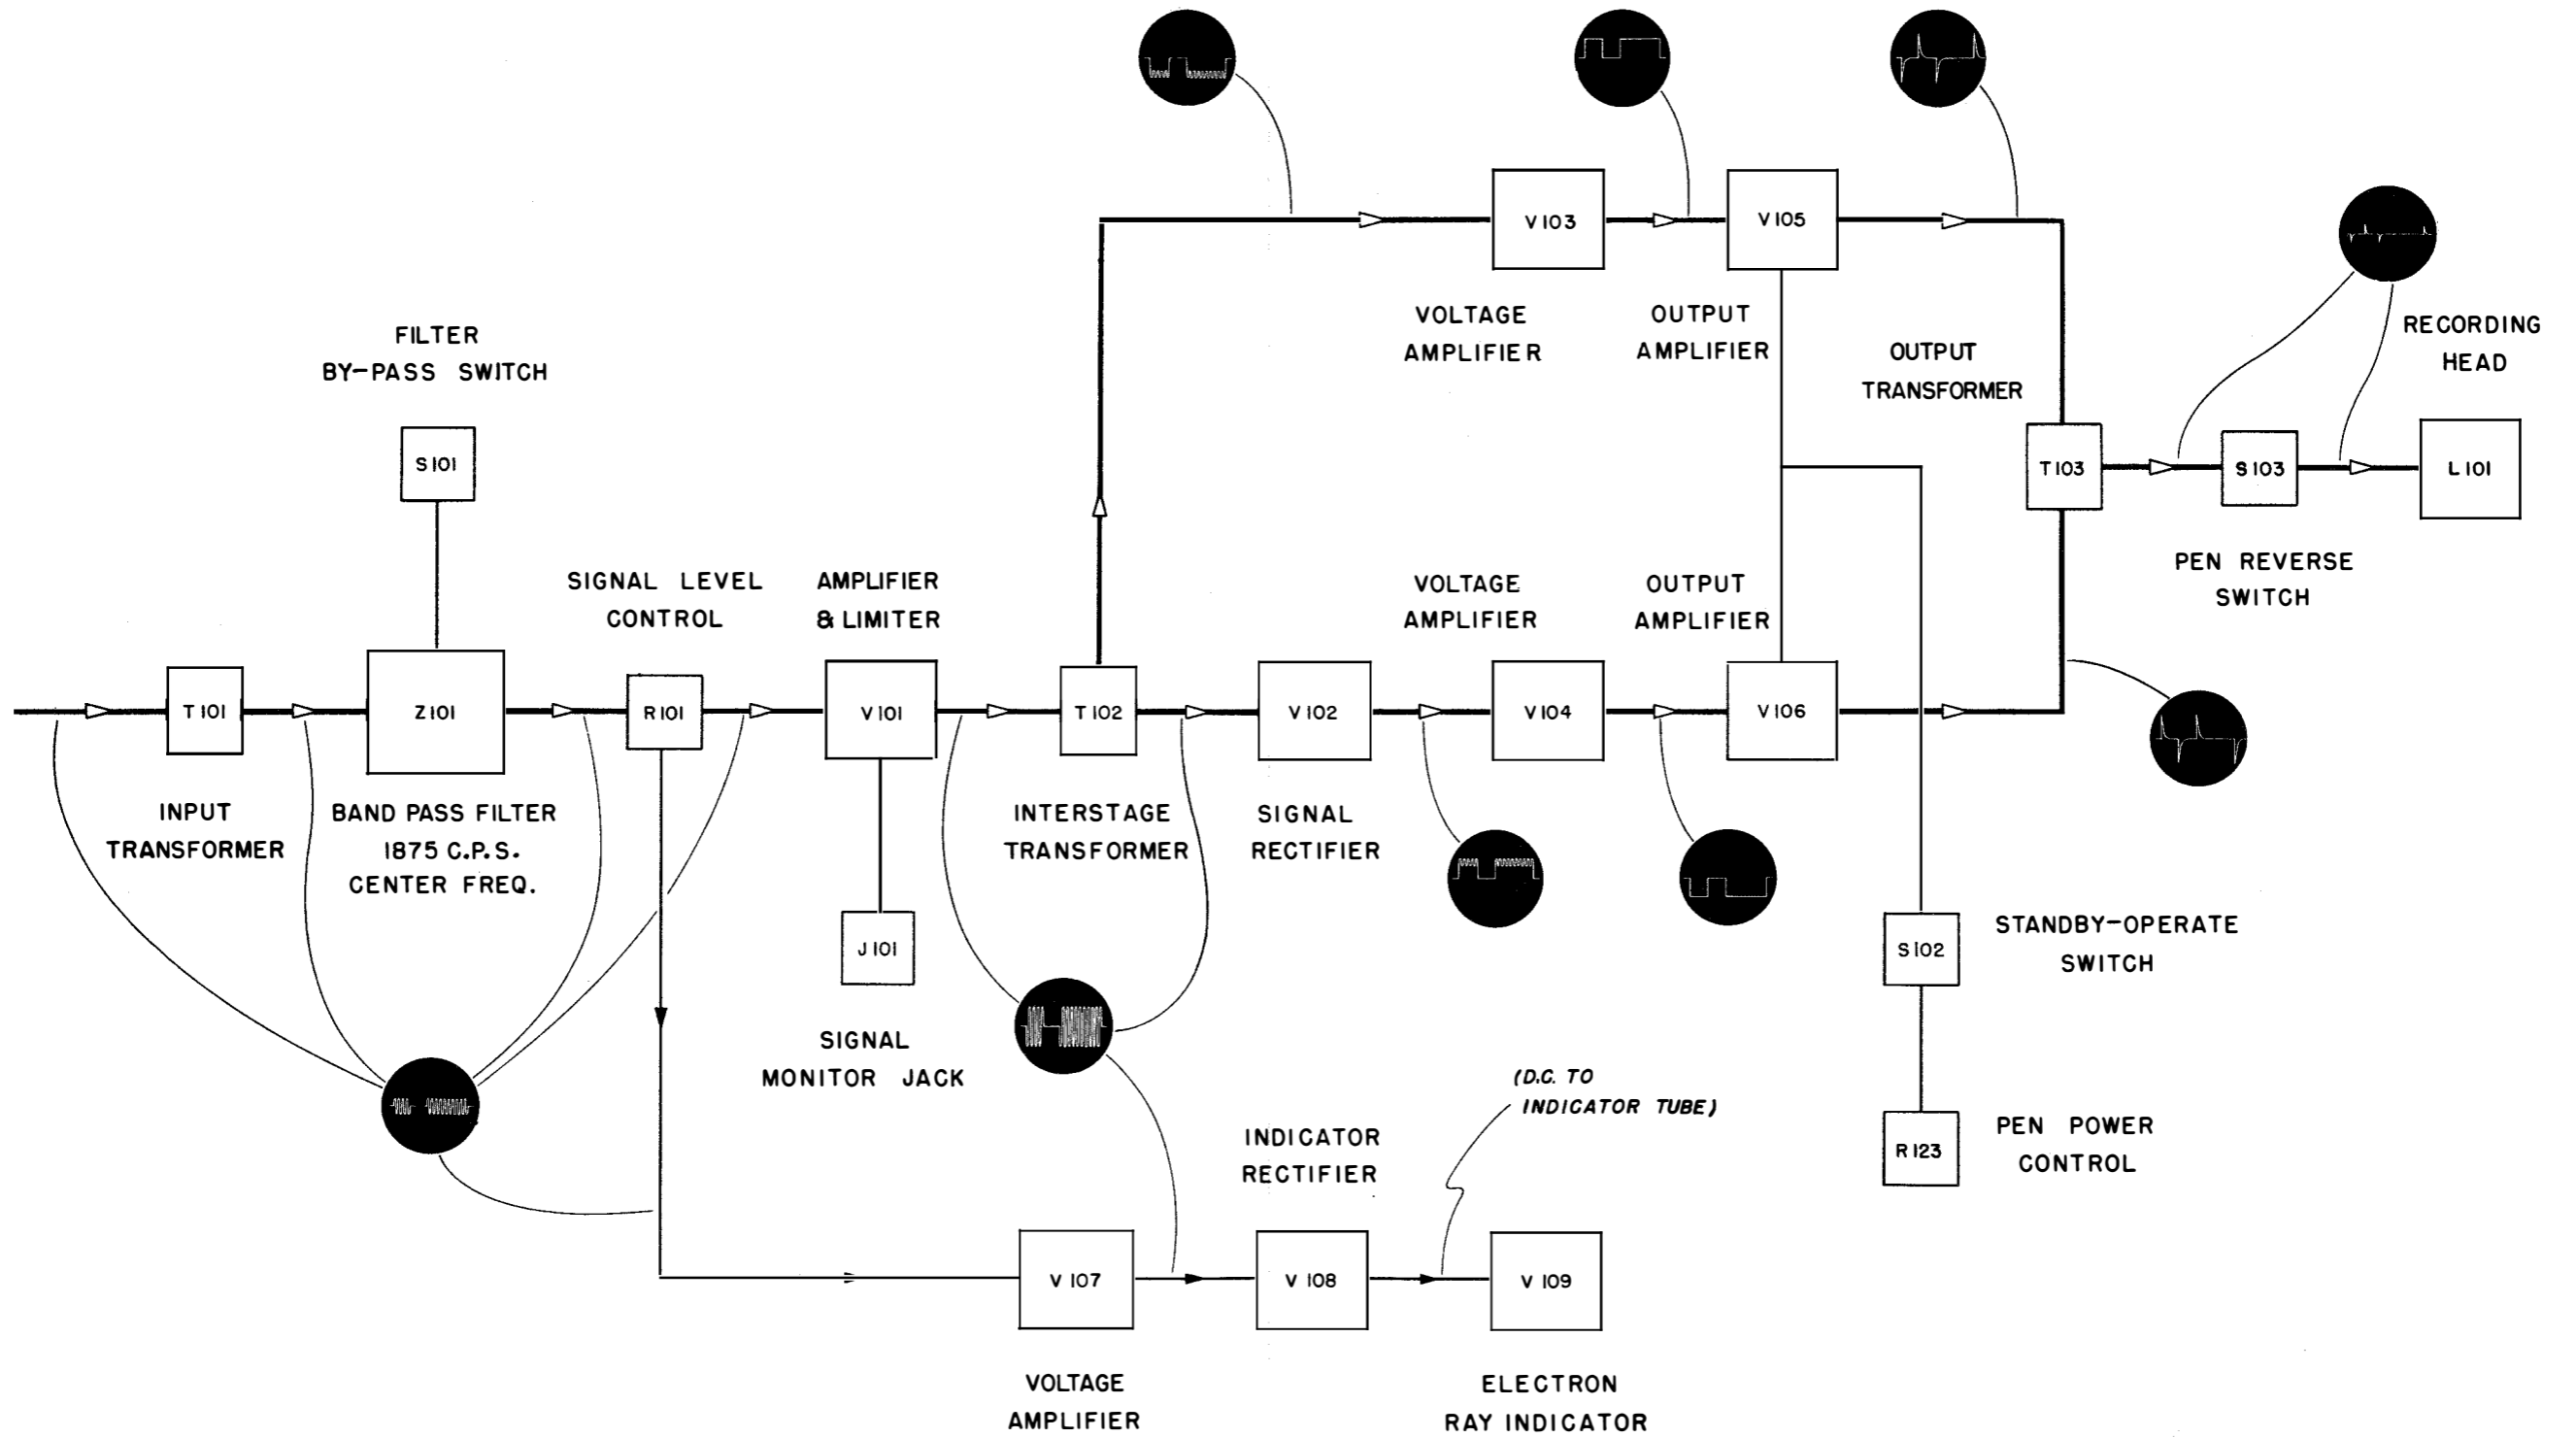

Figure 5-7. Servicing Block Diagram
c. **TROUBLE SHOOTING.** When either visual inspection of the electrical components or a thorough examination of mechanical adjustments fails to disclose the possible cause of trouble, it is necessary to localize the defective stage and part by other means. The most efficient method of localizing the defective stage is by signal tracing with a standard cathode ray oscillograph. If a repetitive audio signal of the correct amplitude and frequency is applied to the input terminals, and the wave form at the various stages observed and compared with those shown on the Servicing Block Diagram, Fig. 5-7, the defective stage can be readily located. The defective part or parts can then be located by making voltage and resistance measurements in the faulty stage, and comparing them with those given in Fig. 5-6, Voltage and Resistance Diagram.
If the recording coil is providing the proper load, apply a repetitive audio signal and observe the wave form with an oscillograph as indicated above. Comparison with standard wave forms, (See Fig. 5-7), will indicate the stage where deviation from normal originates, and conventional methods of component testing will locate the defective component. Trouble Shooting Chart, Table 5-2, provides a further means of quickly locating the source of trouble.